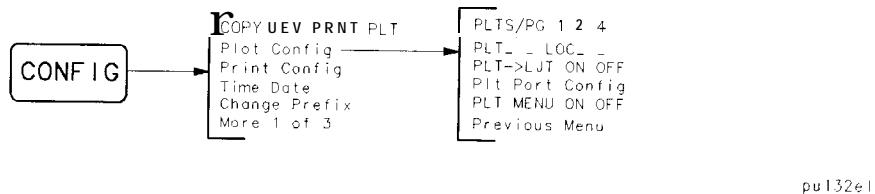

Figure 6-15. Plot Configure Menu
4. Referring to Figure 6-15 select the plotter configuration for your spectrum analyzer by pressing the appropriate keys: